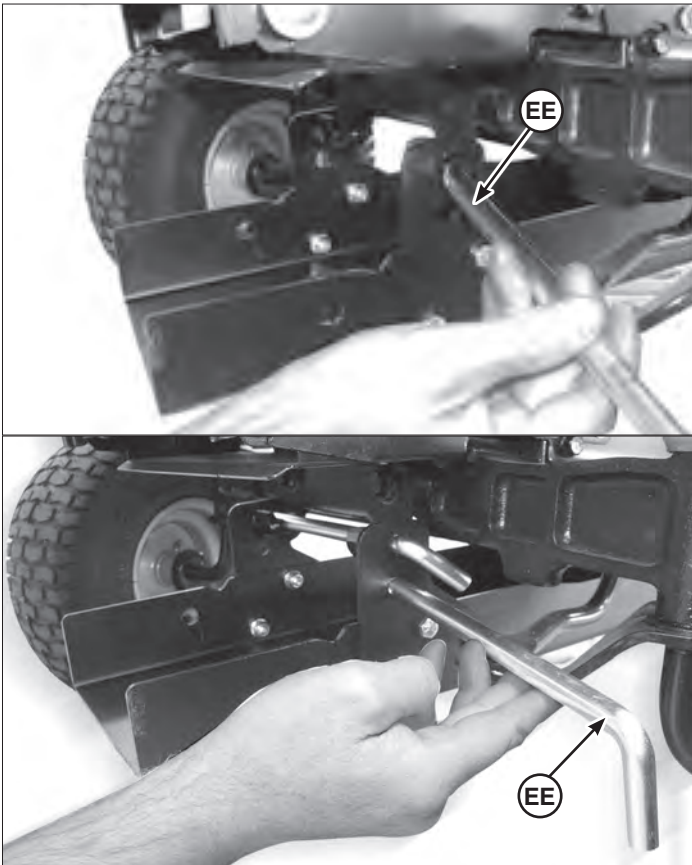

Figure 5
1. At the front of the tractor, align the top slot of the sub-frame assembly to the tractor frame "J" hooks. Slide in the latch rod (**EE**, Figure 5) through the slotted hole and "J" hooks.